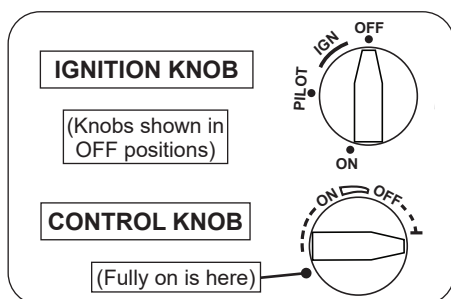

Fig. 24-1 Ignition and control knobs
2. Locate the valve on the unit. Push in the ignition knob slightly and turn clockwise ↻ to **OFF** (see Fig. 24-1).
5. While still holding the knob in, turn the knob counterclockwise ↺ to **PILOT** until you hear a click (piezo igniter will activate and light pilot). Continue to hold the knob in for about one (1) minute after the pilot is lit. Release the knob and it will pop back out. The pilot will remain lit. See Fig. 24-1 and 24-2. If it goes out, repeat steps 2-5.
1. Ensure the pilot is burning. Turn the ignition knob counterclockwise ↺ to **ON** (see Fig. 24-1).
2. Turn the control knob counterclockwise ↺ to the fully ON position to ignite the burner (see Fig. 24-1). The valve will open and the burner will light.
To shut down the main burner (pilot will remain lit), turn the control knob clockwise ↻ to the fully OFF position (see Fig. 24-1).
To shut down the burner and pilot (total shutdown), turn the control knob clockwise ↻ to the fully OFF position, and push in the ignition knob slightly and turn clockwise ↻ to **OFF** (see Fig. 24-1).